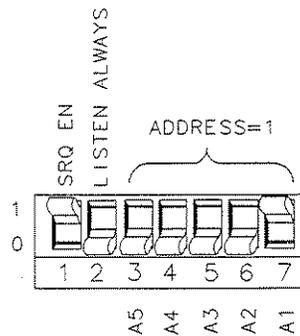

Figure 5
- 2 Connect the printer to the spectrum analyzer using the HP-IB cable. The printer is usually set to device address 1. The printer's mode switches must be set correctly for use with the spectrum analyzer. Refer to Figure 5 for the correct settings for using an HP 2225A ThinkJet printer.